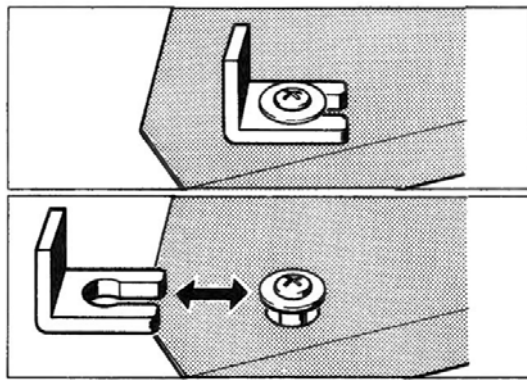

Fig. 1
**13** (Fig. 1).
Remove the two transport lockings **13** by pressing them sideways (fig. 1).